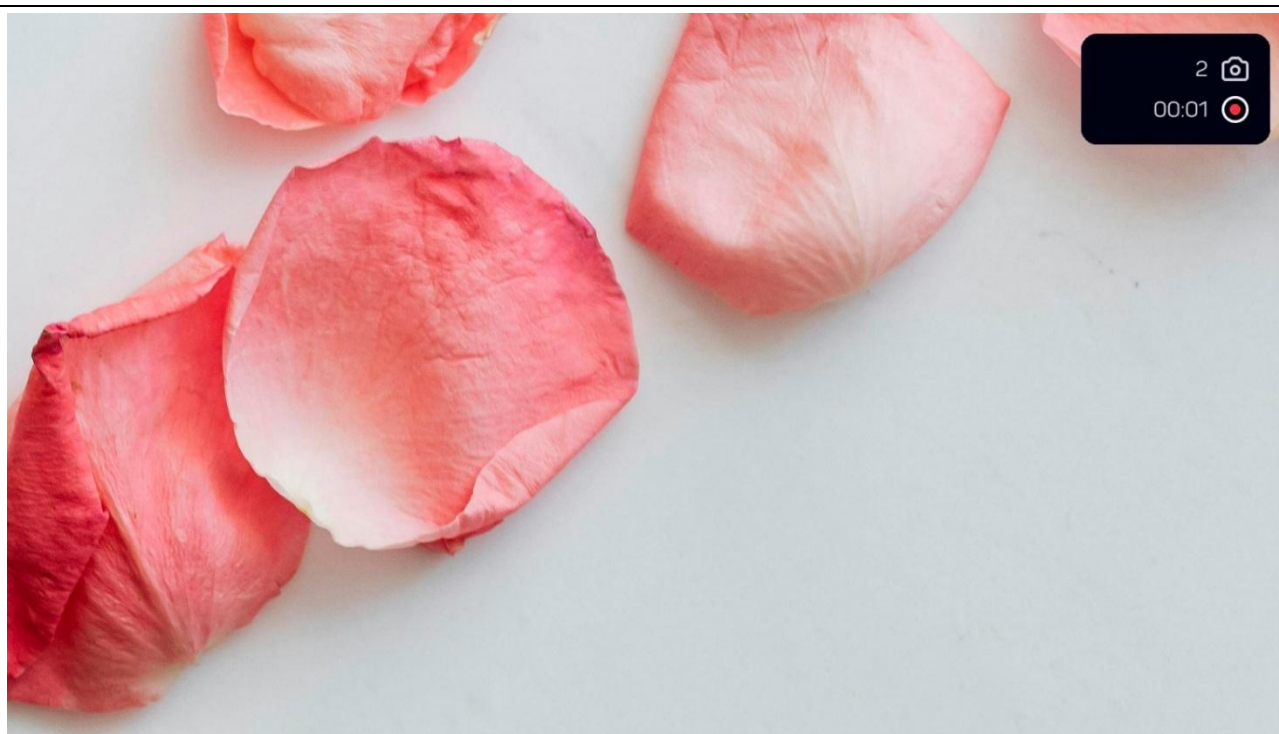

Figure 7: Start video record
- Start a video recording by long press on [1] (see Figure 7).